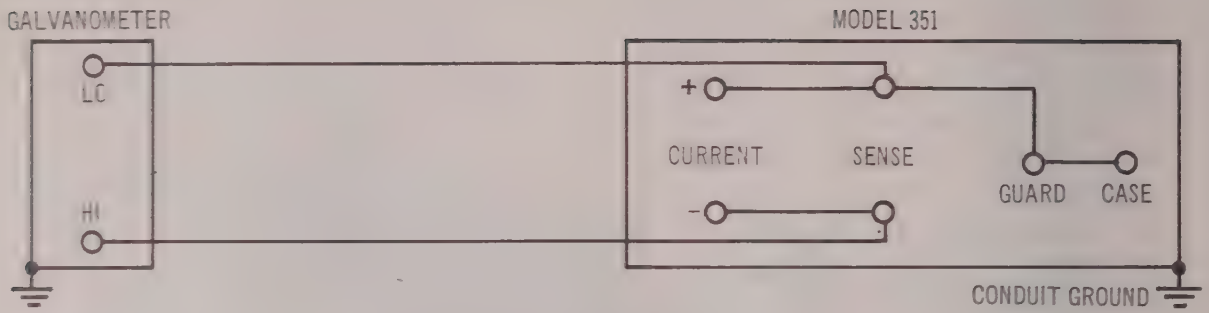

Figure 4-3. Zero-Volt-Output-Adjustment Calibration Setup
1. Connect instrument to galvanometer as shown in Figure 4-3.